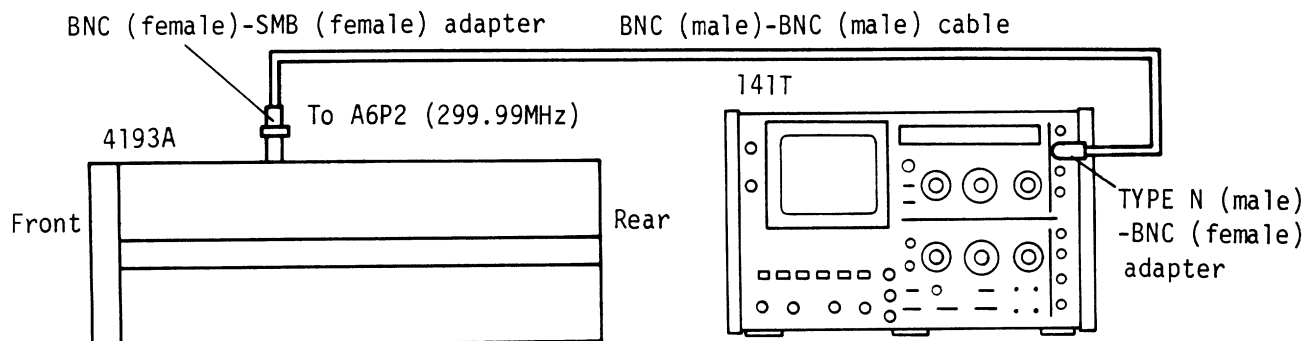

Figure 5-7. BPF Output Level Adjustment Setup.
2. Connect the RF INPUT terminal of the spectrum analyzer to A6P2 (299.99MHz) as shown in Figure 5-7.